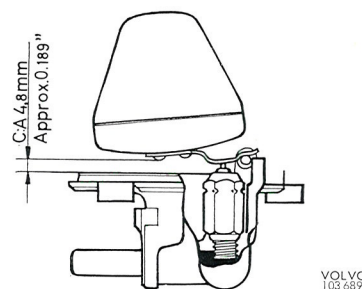

Fig. 2-113. Checking the float level
- Check and secure the float valve, see Fig. 2-113. Fit the float and the cover. Secure the floatchamber and the line to the jet.
This type of carburettor is relatively insensible to variations in the float level. To ascertain the correct level, check the position of the floats according to the measurement given in Fig. 2-113.